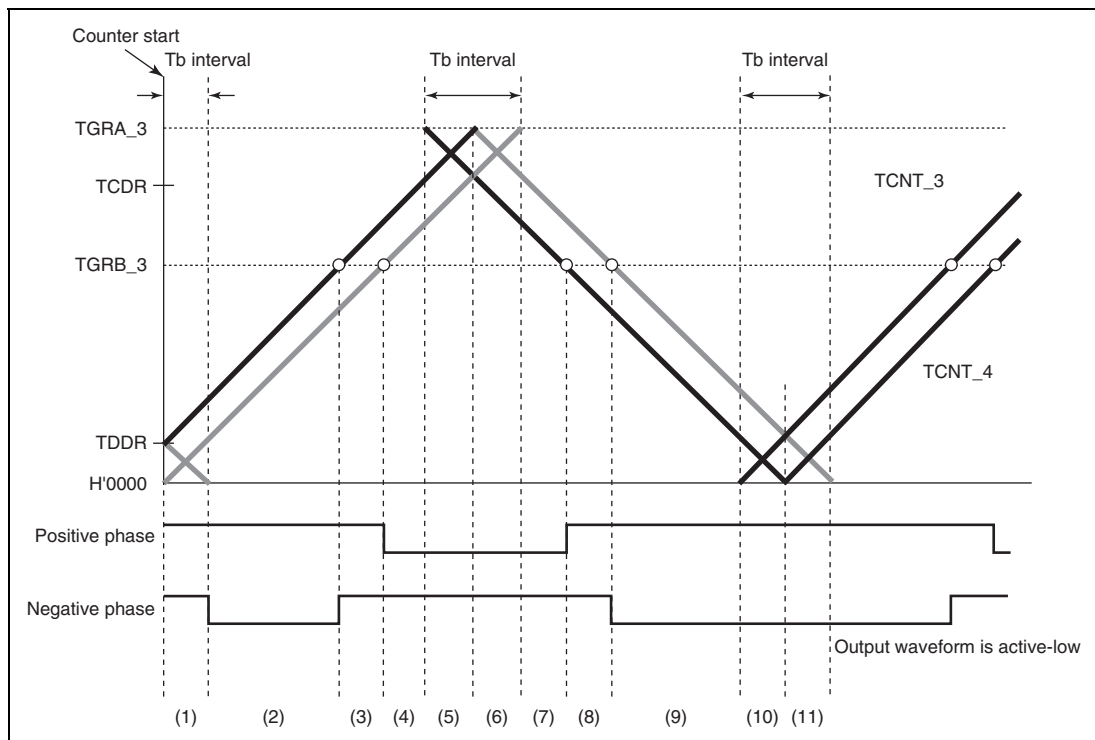

Figure 9.56 Timing for Synchronous Counter Clearing
Initial output suppression is applicable only when synchronous clearing occurs in the T_b interval at the trough as indicated by (10) or (11) in figure 9.56. When synchronous clearing occurs outside that interval, the initial value specified by the OLS bits in TOCR is output. Even in the T_b interval at the trough, if synchronous clearing occurs in the initial value output period (indicated by (1) in figure 9.56) immediately after the counters start operation, initial value output is not suppressed.
Figures 9.58 to 9.61 show examples of output waveform control in which the MTU2 operates in complementary PWM mode and synchronous counter clearing is generated while the WRE bit in TWCR is set to 1. In the examples shown in figures 9.58 to 9.61, synchronous counter clearing occurs at timing (3), (6), (8), and (11) shown in figure 9.56, respectively.
(Timing (6) in Figure 9.56; Bit WRE of TWCR in MTU2 is 1)**
(Timing (8) in Figure 9.56; Bit WRE of TWCR is 1)**